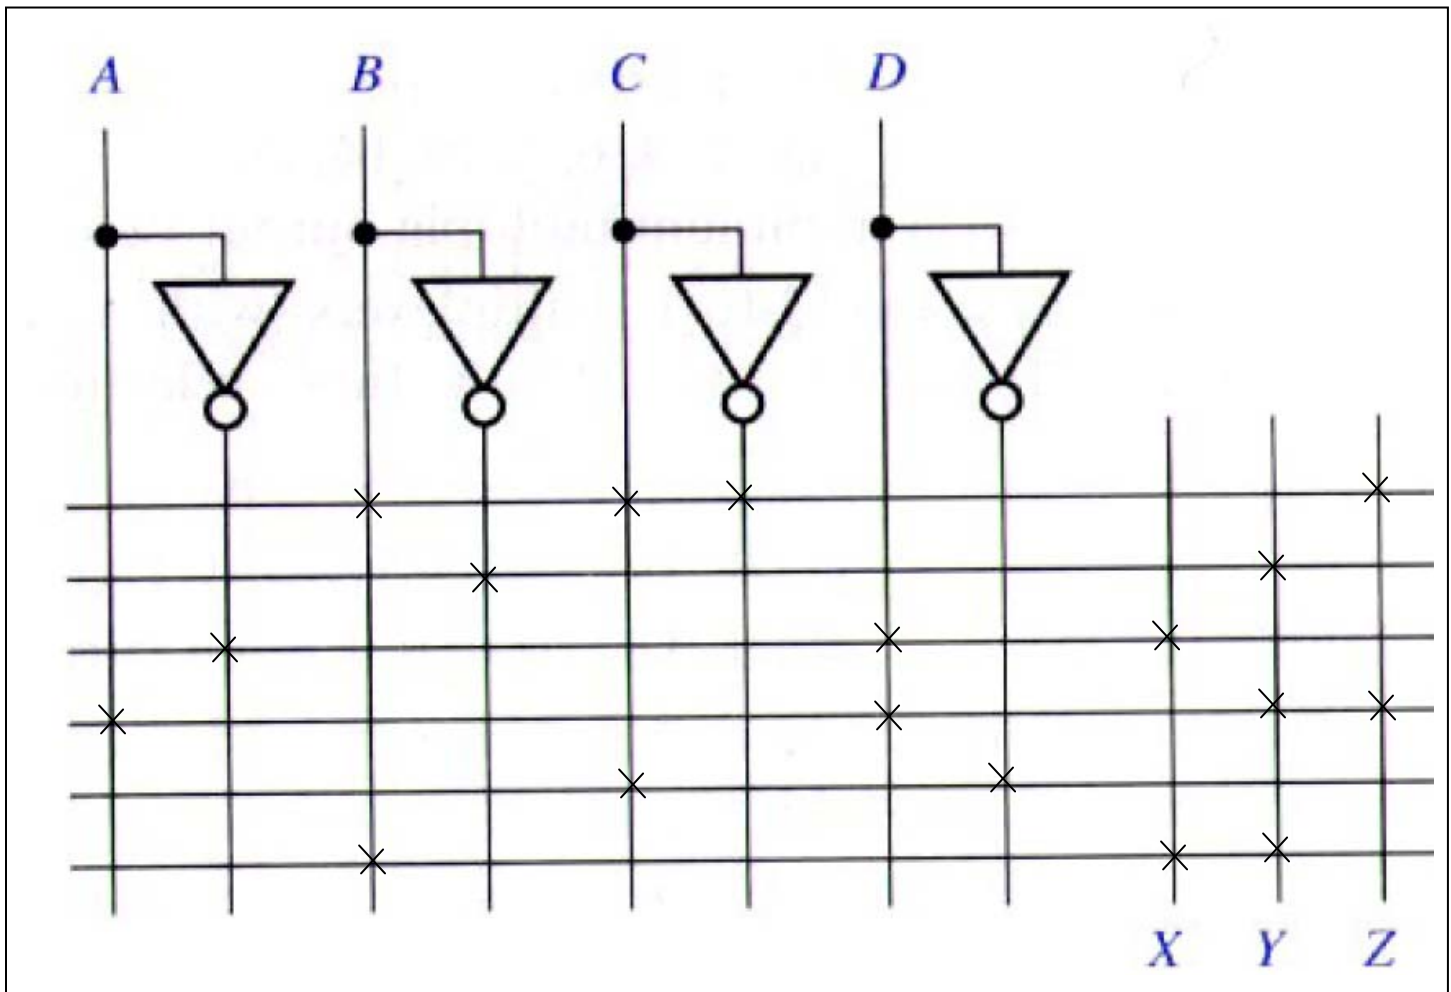

Figure 2. Programmed PLA - find the function (3.a)
- Write the shorthand notation ( $f_{A,B,C,D} = \sum (?)$ ) the logic function associated with X, Y, and Z in figure 2. The notation used in the figure below follows the same idea as figure 3.27 in Brown's book: the horizontal lines are inputs to AND gates, and the vertical lines on X, Y, and Z are inputs to OR gates (9pts).